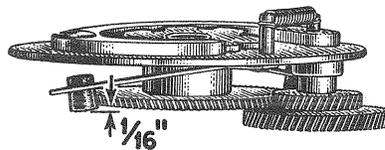

Figure 4—Adjustment of damper pads
- (c) Improper Adjustment of the Damper Pads. The damping pads with the necessary springs are provided to place a load on the $33\frac{1}{3}$ R.P.M. driving gear at all times while it is in operation. Placing such a load on the gear takes up any possible play and reduces the possibility of a "wow" during operation at the slower speed. Adjust these pads by slipping each spring to one side and bend them until they are $\frac{1}{16}$ " beyond the opposite surface upon which they rest. (See Figure 4).
(2) ADJUSTMENT OF MAGAZINE ROLLER